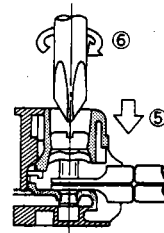

Fig. 7
5. Lower the screw holder. (Temporarily fix the crimp terminal.) (Fig. 7)